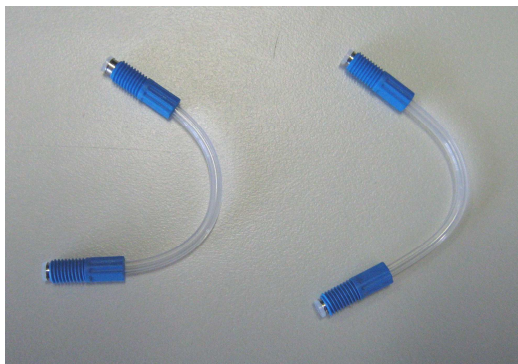

Figure 8: Gentle bend in the SUM tubing
8. Once the new de-bubbler lines have been installed and the fittings have been tightened, the short solvent line that connects the solvent selection valve to the prime valve is ready to be replaced (*Figure 8 and 9*).
9. Remove the 2 short tubes from the kit with the blue fittings for the SUM valve tubing replacement, and using your fingers gently bend the tubes in a shallow curve so that they look like the ones shown in *Figure 8* below. This process can be made easier by slightly warming up the tubes. Take care in not bending the tubes to sharply since this will cause a crease in the tubes and weaken the tube wall at the position of the crease.